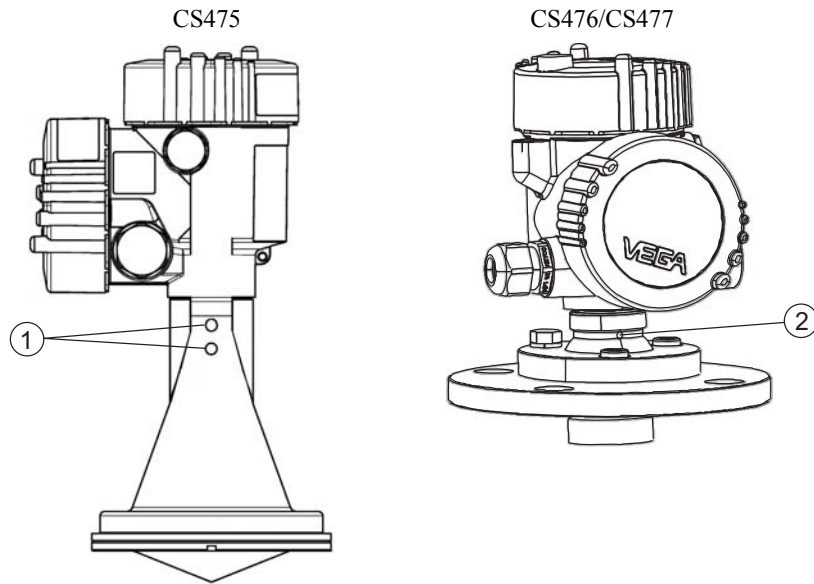

Figure 4-1. Polarization markings (see Table 4-4 for label descriptions)
5. Orient the sensor such that one of its polarization markings is aligned towards the wall or pier (see Figure 4-1 and Table 4-4).